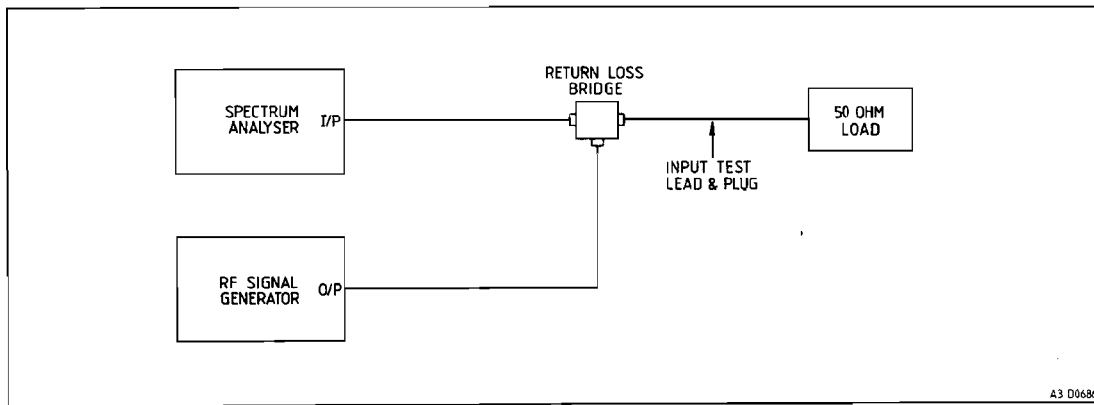

Fig.1 'Return Loss' Measurement
3. With the test equipment connected as shown in Fig.1 measure the 'return loss' of the 50Ω terminal load. This should be greater than 25dB.